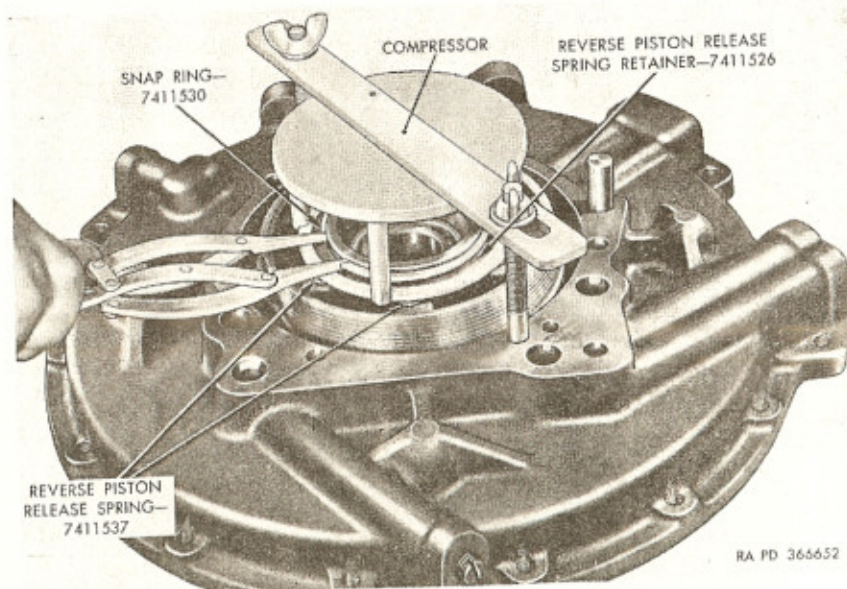
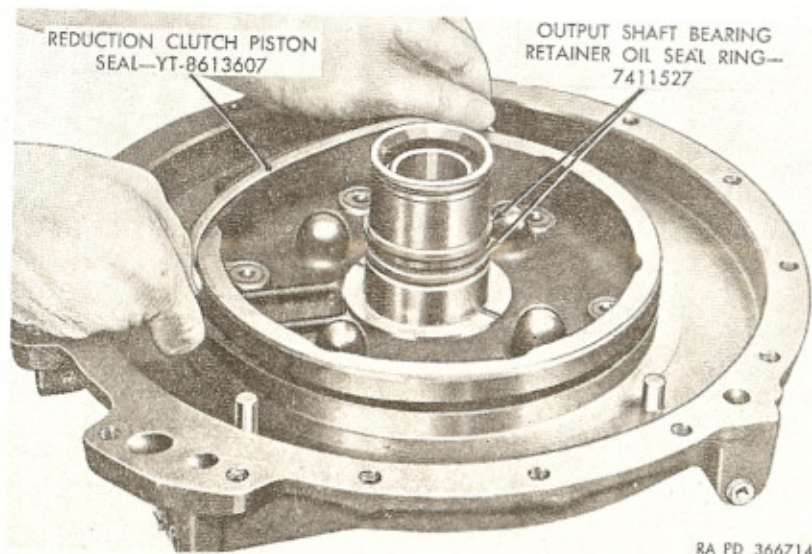

Figure 149. Use of compressor—C7950251 to compress reverse piston release springs.
Figure 154. Installing reduction clutch piston inner seal.
d. Mount spring compressor—C7950251 (fig. 149) on output shaft bearing retainer assembly (J). Tighten wing nuts to compress reverse piston release springs (P). Remove snap ring (C) and discard. Remove compressor. Remove reverse piston
e. Insert six reverse piston release springs (P) in reverse clutch piston (E).
f. Place reverse piston release spring retainer (D) and new snap ring (C) on reverse piston release springs (P). Compress springs with compressor—C7950251 (fig. 149).
g. Install snap ring (C) to lock spring retainer in place; then remove compressor.
h. Using block of wood and hammer, tap output shaft ball bearing (B) into bearing retainer until bearing bottoms squarely.
i. Insert new snap ring (A) in bearing retainer and seat firmly in groove, locking bearing in place.
j. Turn bearing retainer on opposite side and install two new output shaft bearing retainer oil seal rings (M) on retainer hub.
k. Install new reduction clutch piston seal in bearing retainer (fig. 154) with lip of seal down.
l. Install two $\frac{3}{8} \times 2\frac{1}{2}$ studs (K) in bearing retainer. Tighten to 23 to 28 pound-feet torque.